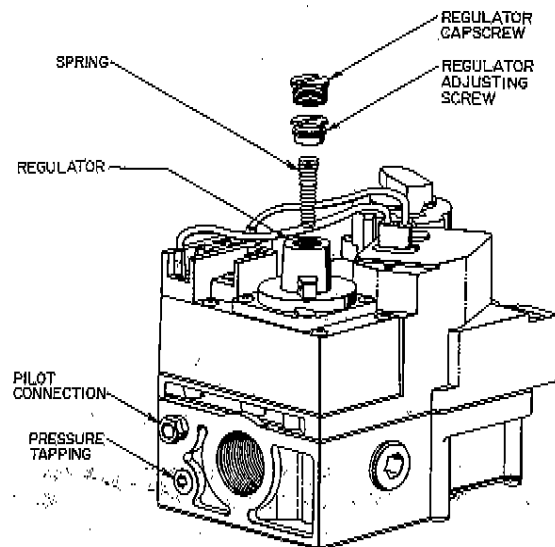
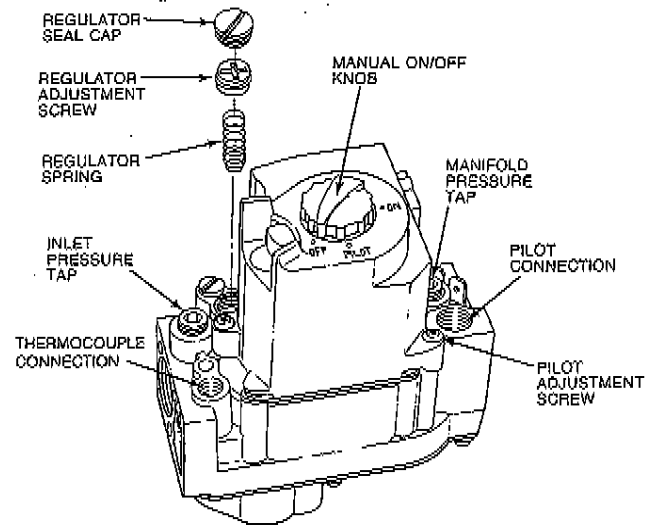

Fig. 4—Honeywell Model VR800A Gas Valve
Fig. 5—Honeywell Model VR8200H Gas Valve ^{A89186}
1. Remove regulator seal cap. See Fig. 4 for Honeywell VR800A, or Fig. 5 for Honeywell VR8200H Gas Valve.
- a. Locate adjustment screw on top of the gas valve. (See Fig. 4 or 5.)